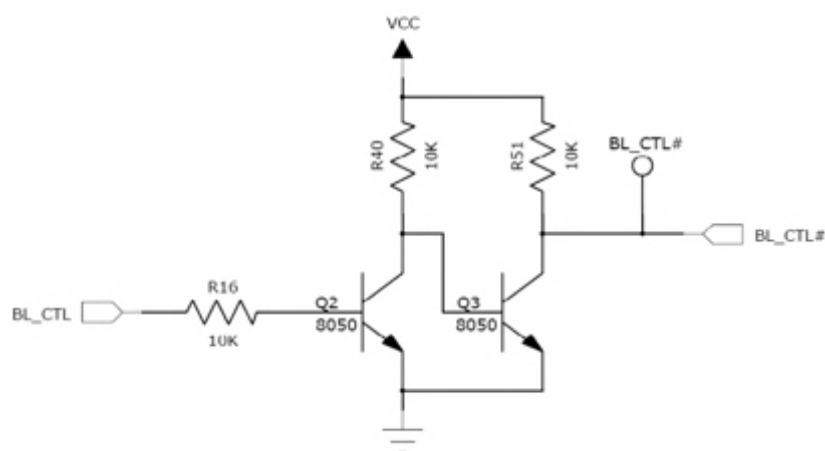

Figure 3.2.8.1 Screen-off detect control circuit diagram
1. Screen-off detect control circuit is shown in the figure 3.2.8.1: